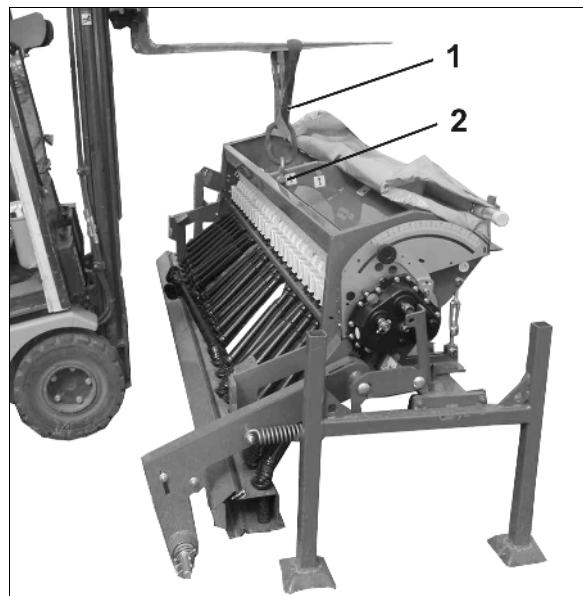

Fig. 23
2. Secure the implement using the lifting belt (Fig. 23/1) of the lifting device.
Make use of the marked fixing points (Fig. 23/2) on the machine.